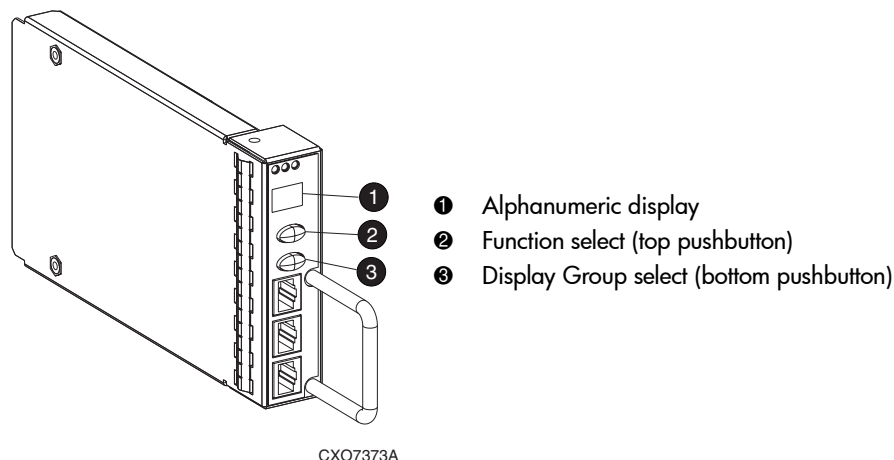

Figure 43: Alphanumeric display and controls
The two-character alphanumeric display is located at the top of the EMU. See ❶, Figure 43. This 7-segment display provides information about multiple enclosure functions. The pushbuttons control the data displayed or entered.
- The bottom pushbutton enables you to sequentially move between groups and to select a display group. See ③, Figure 43.
- The top pushbutton enables you to move between the levels within a display group. See ②, Figure 43.
Note: Anytime you press and release the bottom pushbutton, the display will change to *En*, *Li*, *rG*, *Au*, or *Er*. See ③, Figure 43.